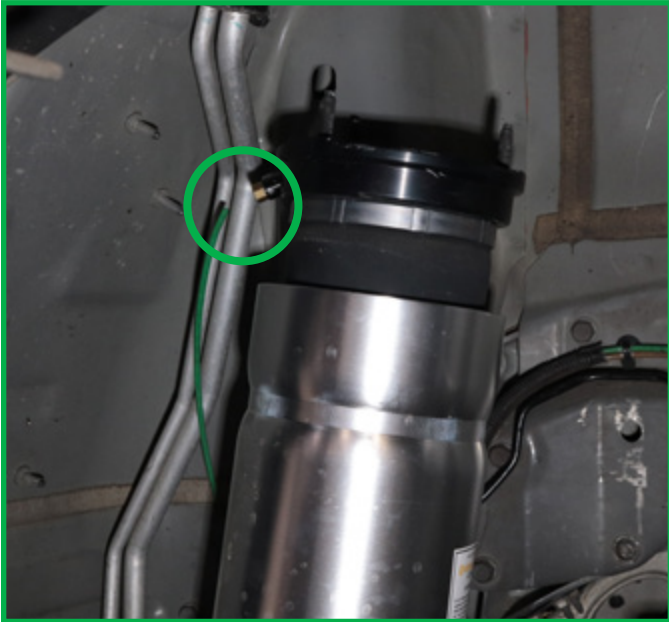

FIGURE 8
1. Partially install the new strut into the vehicle, enough to install the air line into the new strut. (Figures 8, 9, 10)